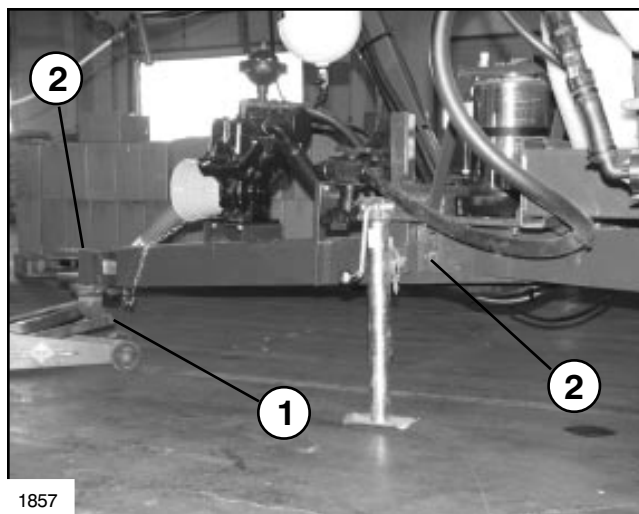

FIG. 1
3. Place a Jack under the hitch clevis as shown in Figure 1. Remove the bolts securing the Tongue to the Frame. Reposition the Tongue to the required height and align the holes in the Tongue and Frame. Install the bolts in the new position and tighten securely.
1. Lock Tractor's Brake Pedals together. See FIG. 1.